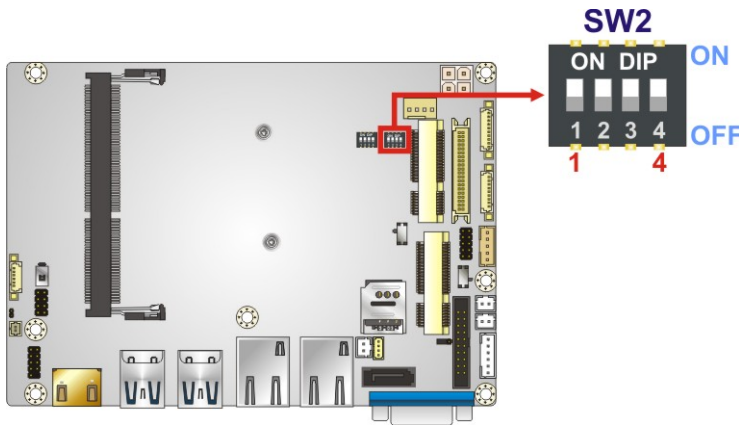

Figure 4-13: Serial Port Mode Selection Switch Location
- CN Location:** See **Figure 4-13**
The location of the serial port mode selection switch is shown in **Figure 4-13** below.